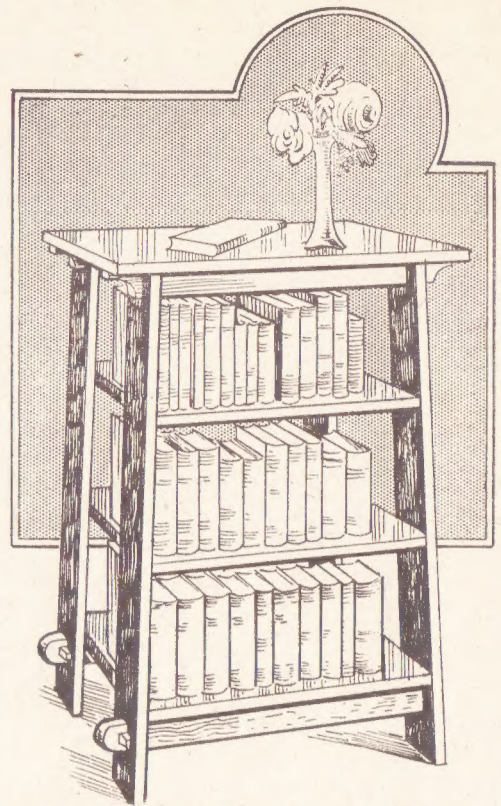

Fig. 1—An attractive and useful piece of furniture
The rails (G) have rounded ends as shown, cut carefully to a semi-circle with the fret-saw at a centre distance of 1½ins. in from each end. There are small openings cut, as seen in Fig. 3, to take the shallow-cut wedges which pull the joints well together after they are glued up. The openings for the wedges in rail (G) are clearly seen in Fig. 1—front view. In Fig. 3, at method (A) the wedge is seen just before entering its cut-out hole.